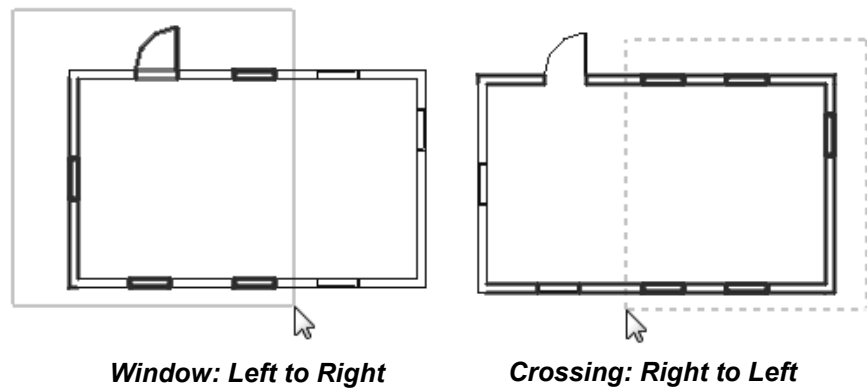

Figure 2–13
- If you click and drag the cursor to *window* around elements, you have two selection options, as shown in Figure 2–13. If you drag from left to right, you only select the elements completely inside the window. If you drag from right to left, you select elements both inside and crossing the window.